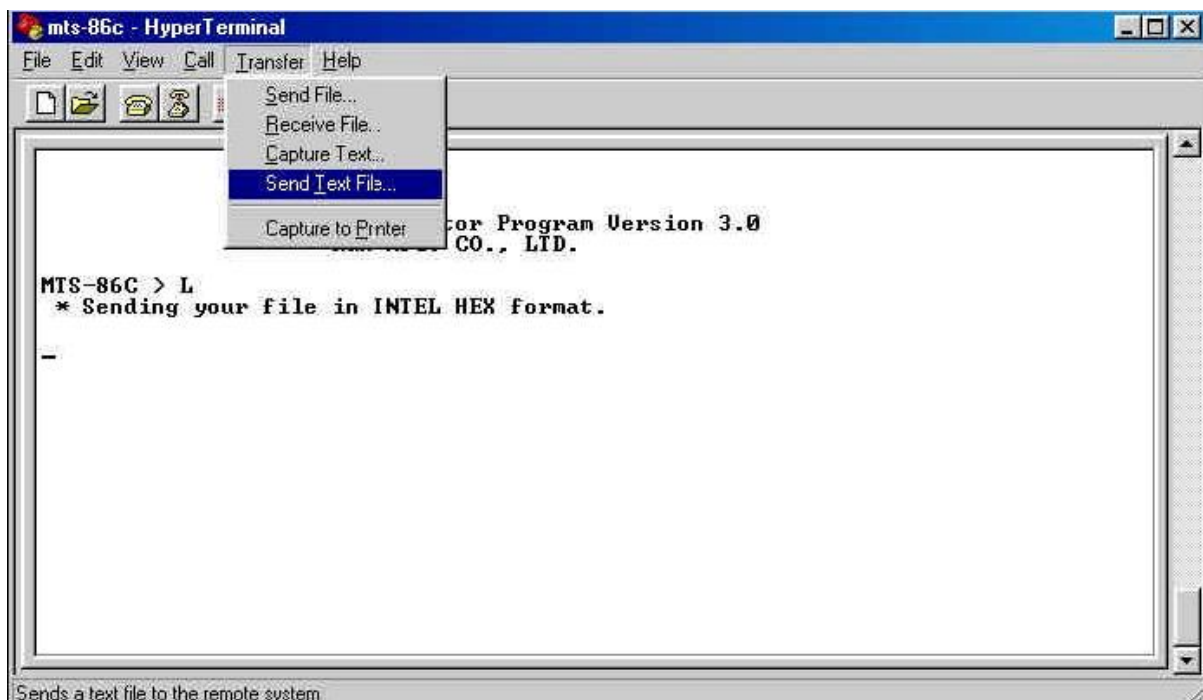

Fig. 1.17 Loading a HEX file.
- h) Example for running a program by using Hyper Terminal (Fig. 1.17)
- (1) Press "L" and "Enter", as shown in Fig. 1.17
- (2) Select "Transfer >> Send Text File " from the menu bar